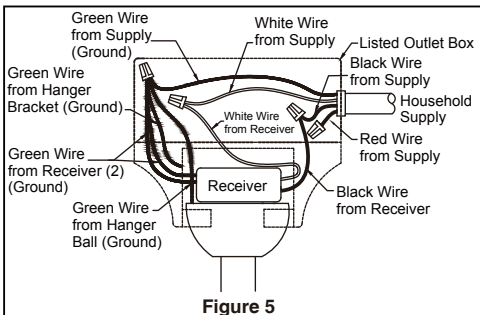

Figure 5
4. After connections have been made, put the white and green leads to one side and the black leads towards the other side, the connection should be turned upward and carefully push leads into the outlet box. The wires should be spread apart with the grounded conductor and the equipment-grounding conductor on one side of the outlet box and the ungrounded conductor on the other side. (Figure 5)